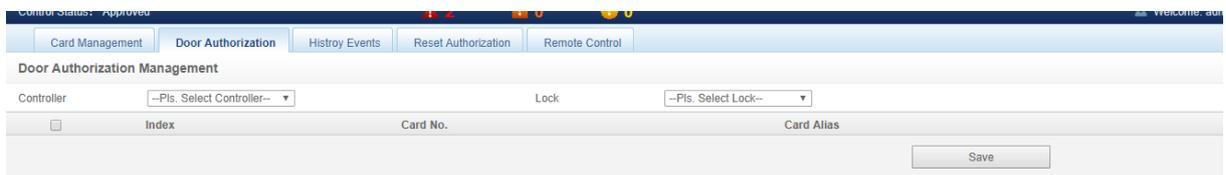

Figure 3-59 Door authorization
b) Click the **Door Authorization** tab and go to the Door Authorization page to set the authority of the card as shown in the Figure 3-59.